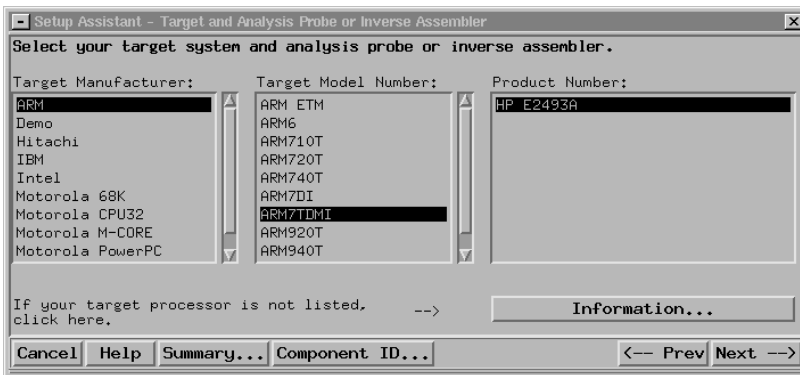

Figure 2.4. Setup Assistant gets you up and running quickly.
**Setup Assistant** is a guided menu system that helps you configure the logic analysis system for your target microprocessor or bus. Online information guides you through the setup. (See figure 2.4)